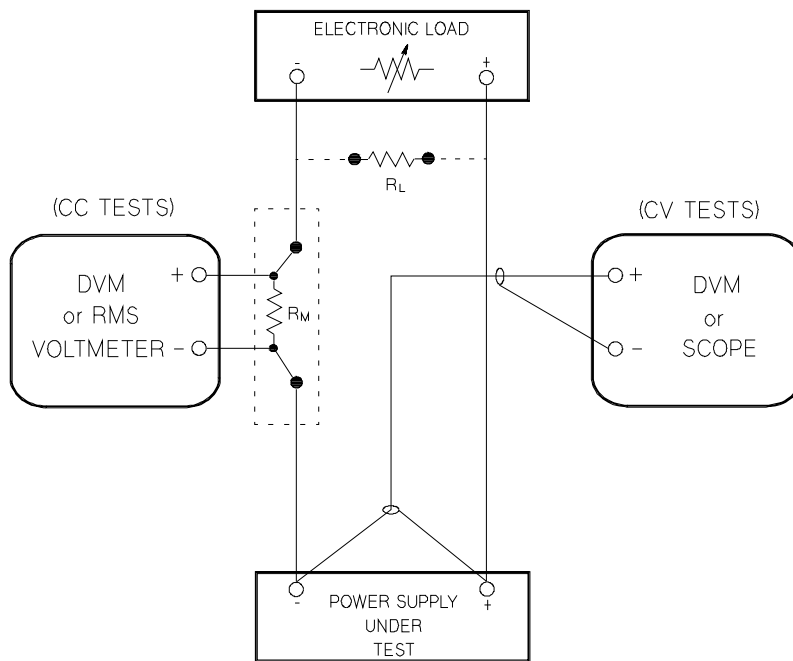

Figure 3-1. Performance Verification Test Setup
To eliminate output current measurement error caused by the voltage drops in the leads and connections, connect the current monitoring resistor between the (-) output terminal and the load as a four-terminal device. Connect the current-monitoring leads inside the load-lead connections directly at the monitoring points on the resistor element (see R_M in Figure 3-1).
- 1 Turn off the power supply and connect a digital voltmeter between the (+) and (-) terminals of the output to be tested as shown in Figure 3-1.
- 1** Turn off the power supply and connect a digital voltmeter between the (+) and (-) terminals of the output to be tested as shown in Figure 3-1.
- 4** Operate the electronic load in open mode (input off). Record the output voltage reading on the digital voltmeter immediately. The difference between the digital voltmeter readings in steps (3) and (4) is the CV load regulation. The difference of the readings during the immediate change should be within the limit specified below for each output tested.
- 6** Adjust the autotransformer to high line voltage (127 Vac for nominal 115 Vac, 110 Vac for nominal 100 Vac, or 253 Vac for nominal 230 Vac). Record the voltage reading on the digital voltmeter immediately. The difference between the digital voltmeter readings in steps (5) and (6) is the CV line regulation. The difference of the readings during the immediate change should be within the limit specified below for each output tested.